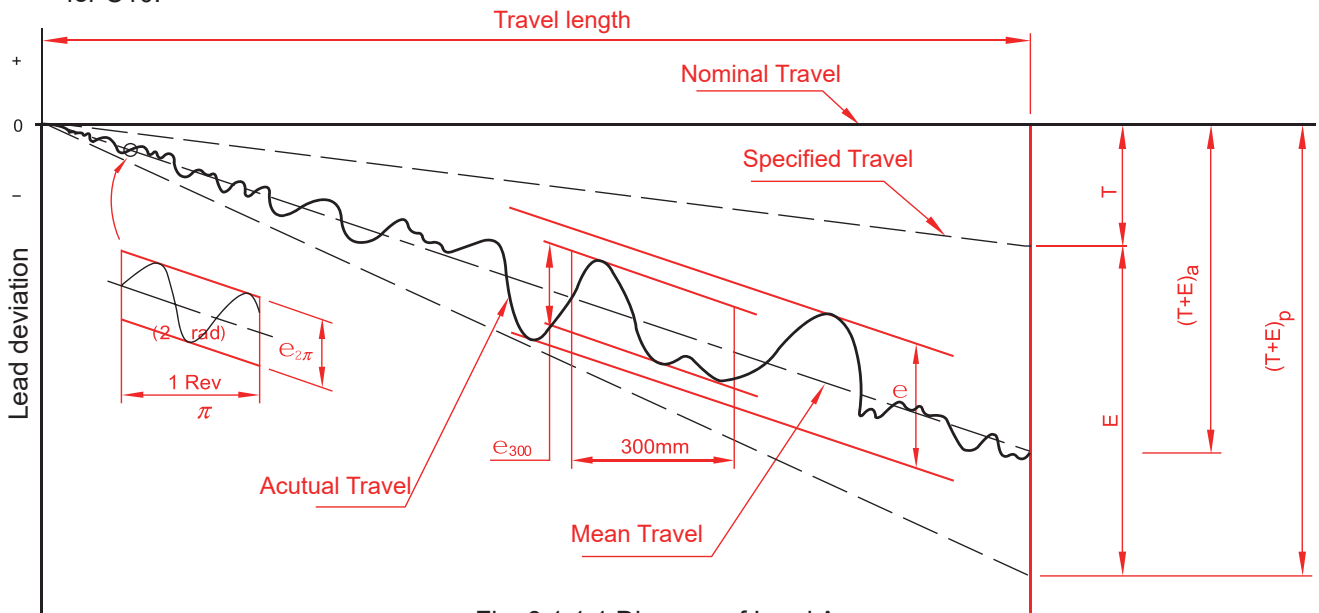

Fig. 6.1.1.1 Diagram of Lead Accuracy
- 1 Lead accuracy of ABBA Ball screws (grade C0~C5) is specified in 4 basic terms (E , e , e_{300} , $e_{2\pi}$). There are defined in Fig.6.1.1.1 Tolerance of deviation ($\pm E$) and variation (e) of accumulated reference travel are shown in Table 6.1.1.1~ 6.1.1.3